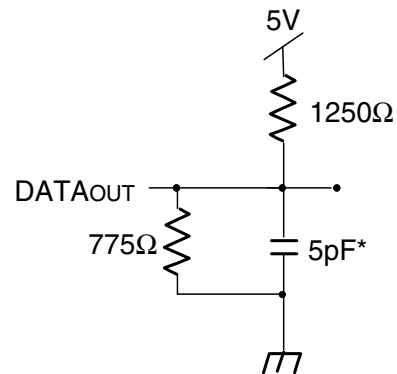

Figure 2. Output Test Load
1. Transition is measured 0mV from Low or High-Impedance Voltage Output Test Load (Figure 2).
1. Transition is measured 0mV from Low or High-impedance voltage with Output Test Load (Figure 2). This parameter is guaranteed by device characterization but is not production tested.
7. This parameter is determined by device characterization, but is not production tested. Transition is measured 0mV from steady state with the Output Test Load (Figure 2).